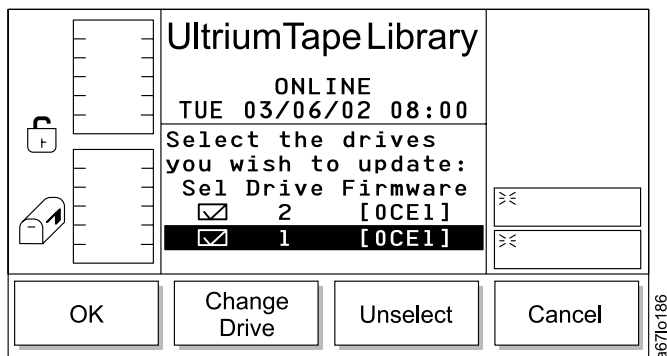

Figure 73. Select Drives Dialog
4. Select **OK**. The Select Drives Dialog displays (see Figure 73).